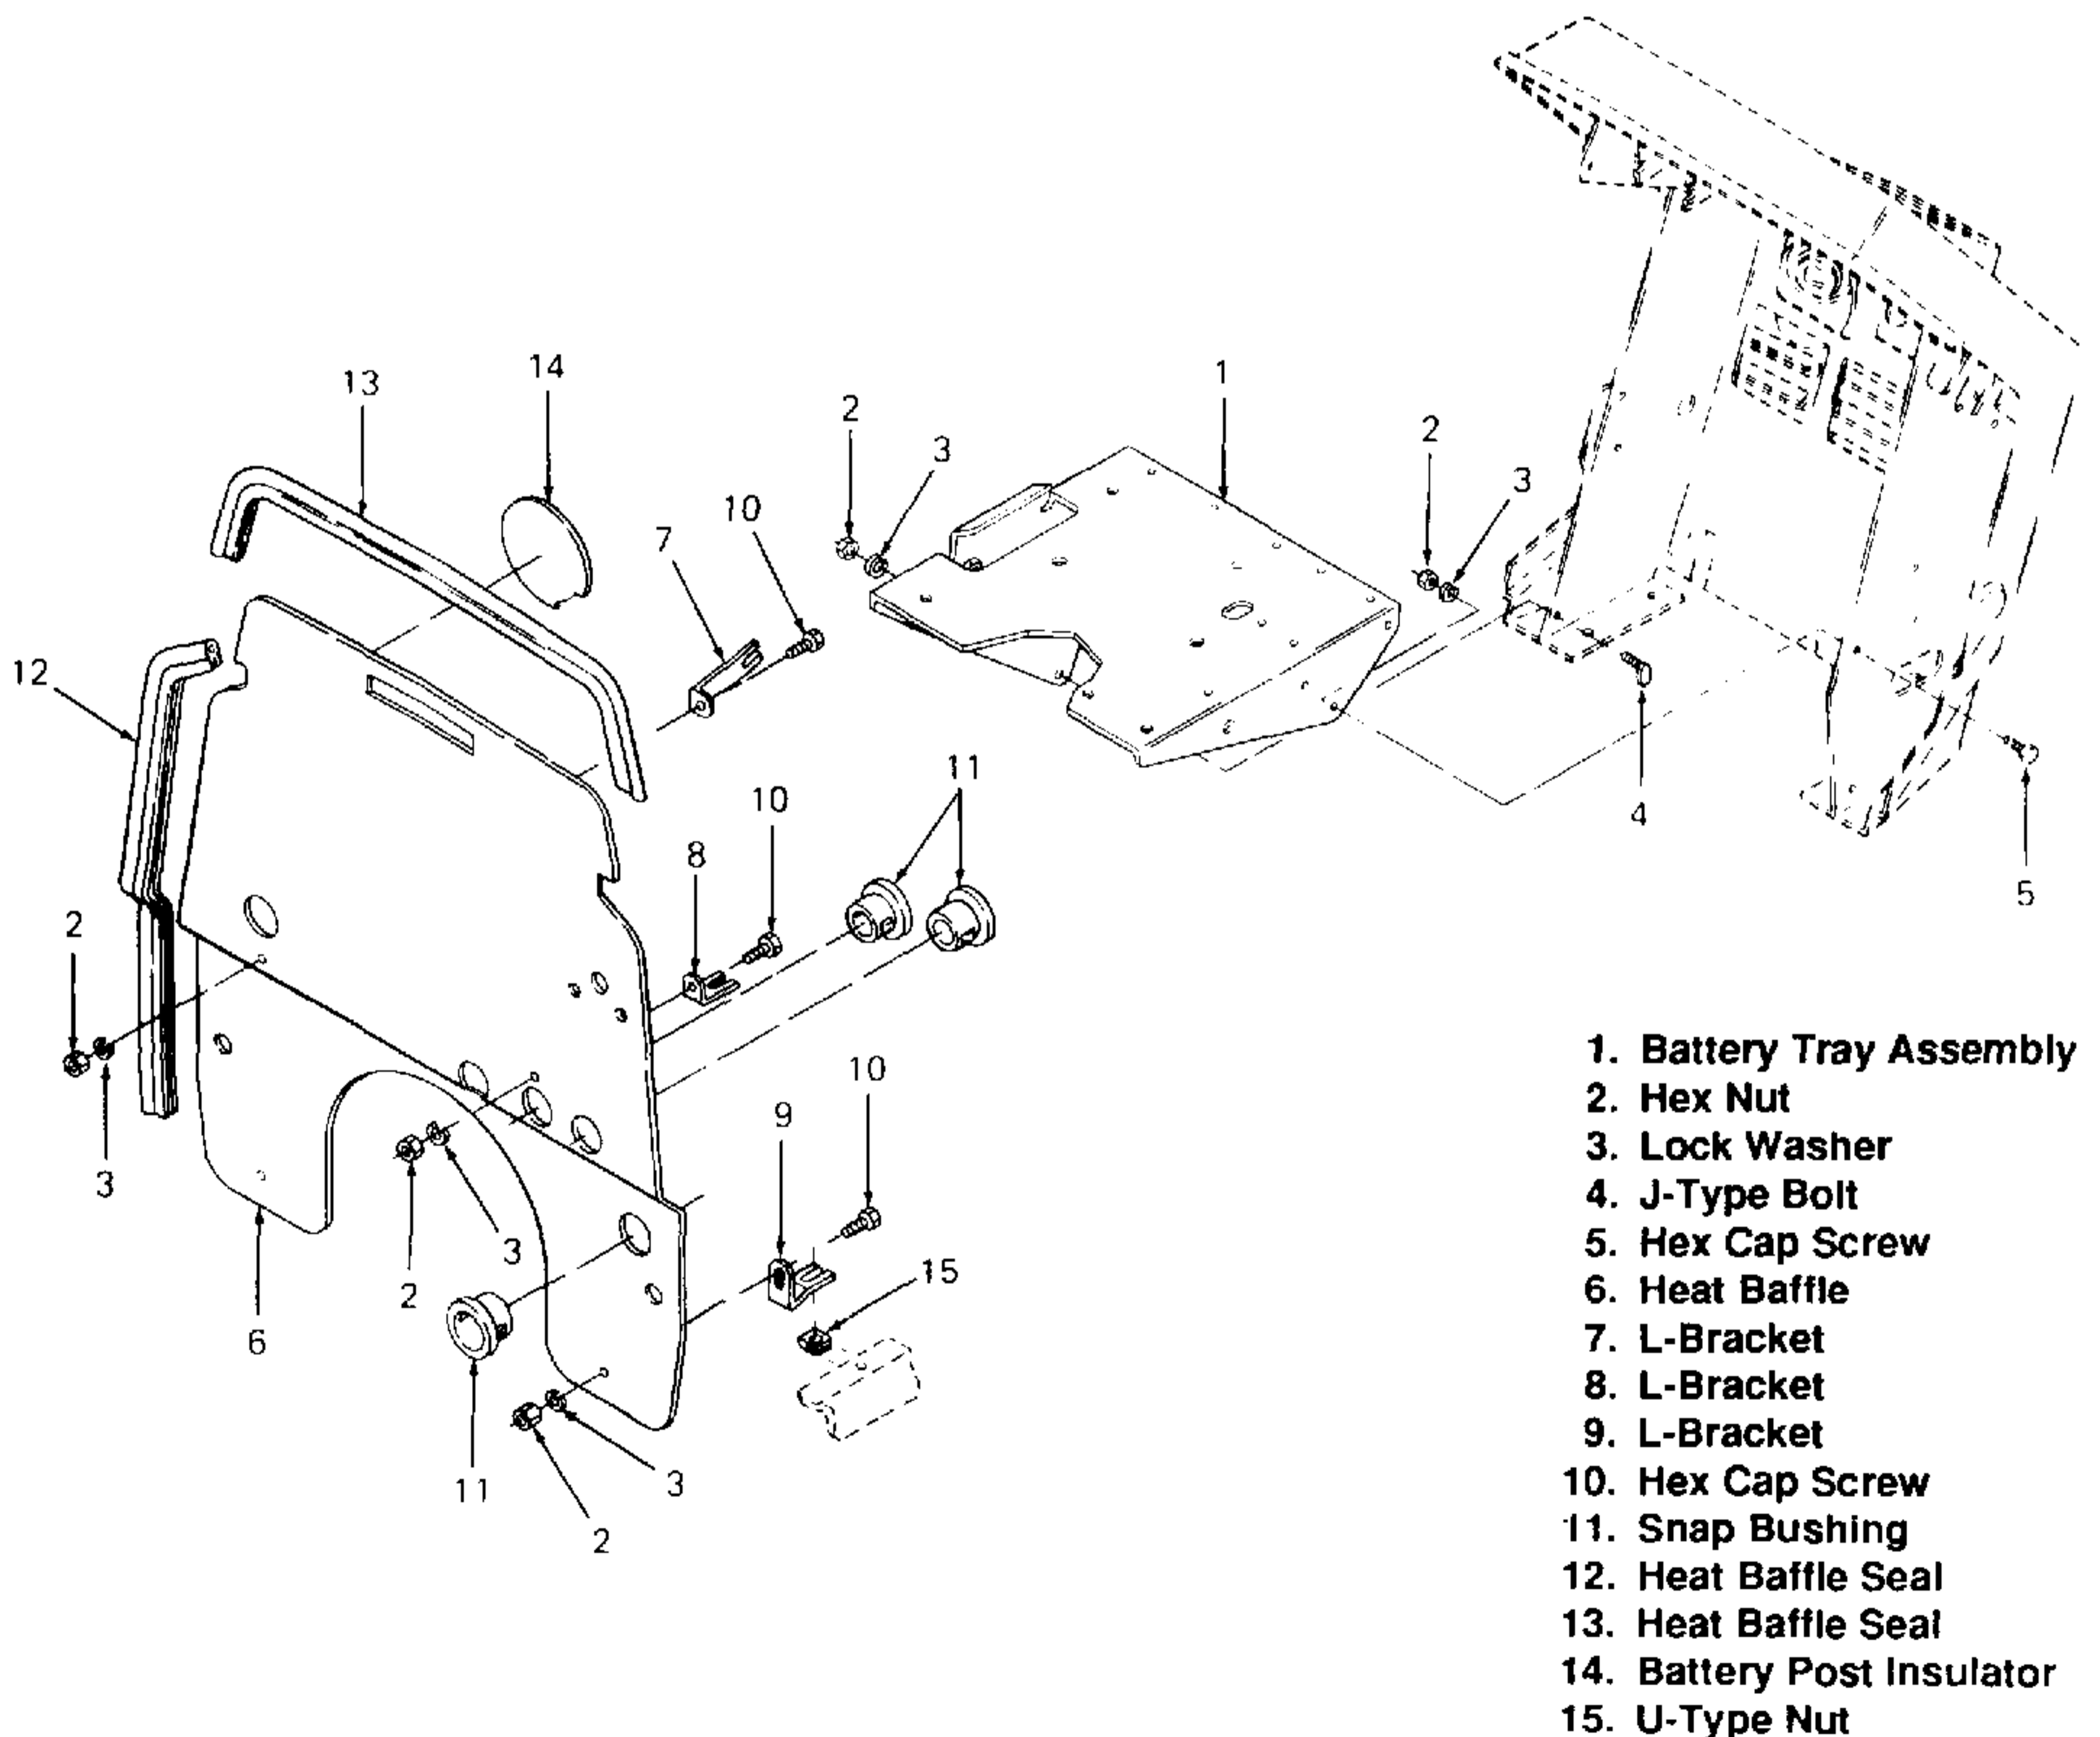

Figure 5-15B. Battery Tray and Heat Baffle (Model 1541).
2. Remove battery tray assembly (1, Figure 5-15B) by removing hex nuts (2), lock washers (3), J-type bolt (4) and hex cap screws (5).